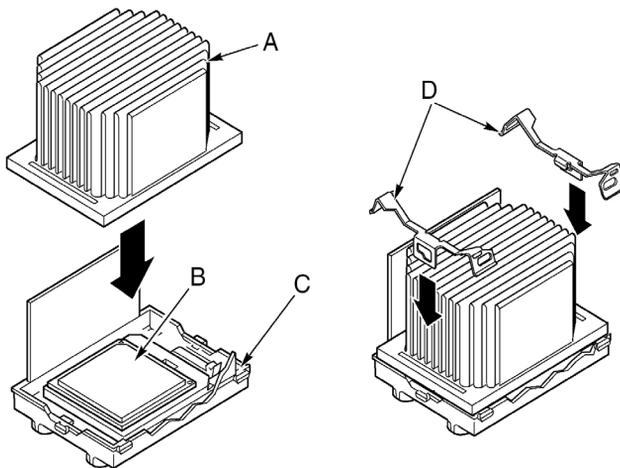

Figure 32 - Installing the heatsink
- 6 Insert the heat sink (Figure 32, A) into the air baffle and place it on top of the processor.
- 7 Install both heat sink retention clips (Figure 32, D) as follows:
- b Snap one end of the clip down over the corresponding tab on the retention module (Figure 32, C).